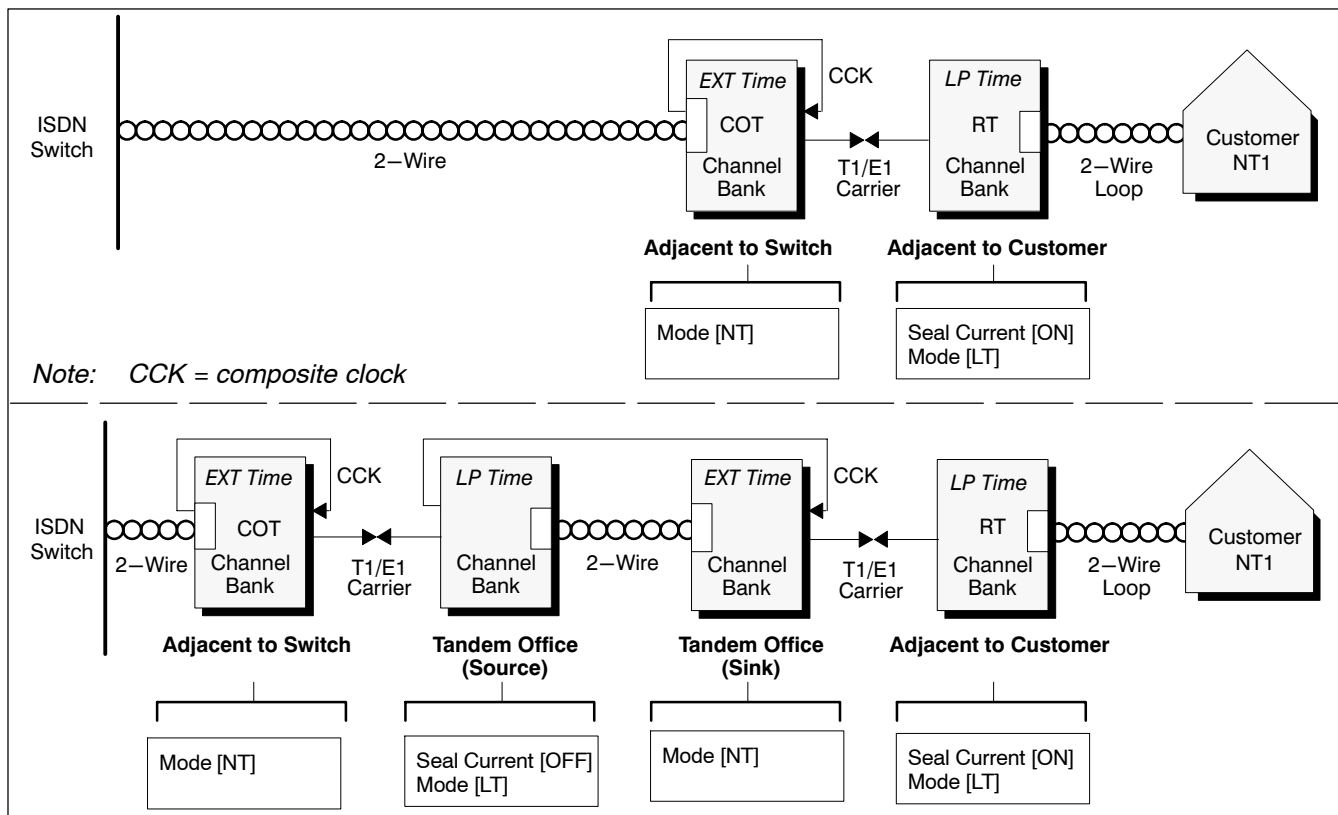

Figure 3. Configuration Settings at Network Locations
The ISDN unit may be used at both the central office terminal (COT) location and the remote terminal (RT) location. See Figure 3 for configuration based on location.